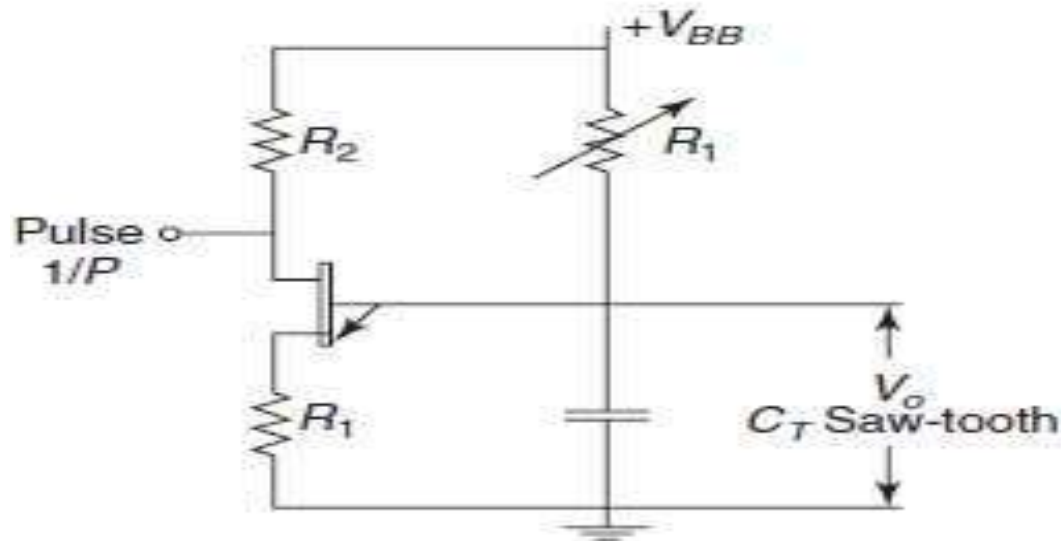

Figure 14-7 (c) Time-base generator using UJT
- The circuit shown in Fig. 14-7(a) is a simple sweep circuit, in which the capacitor C charges through the resistor R .
- The capacitor discharges periodically through the transistor $T1$, which causes the waveform shown in Fig. 14-7(b) to appear across the capacitor of the transistor to turn it ON for short time in t